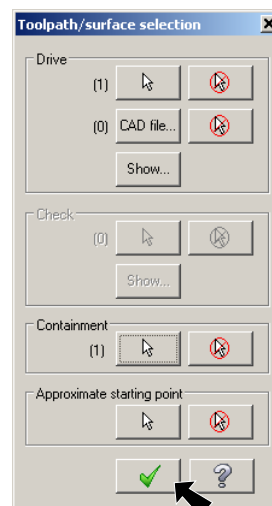

Fig. 9
Step 8. Click OK  in the Toolpath/surface selection dialog box, **Fig. 9**.
Step 8. Click OK  in the Toolpath/surface selection dialog box, Fig. 9.